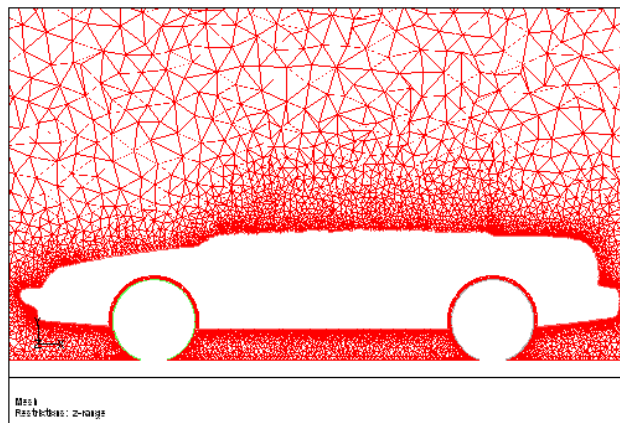

Figure 2.5: Slide of Cells at  $Z = 0.38$
- ii. Display the mesh on a slide through the wheels ( $z = 0.38$ ). See Figure 2.5.